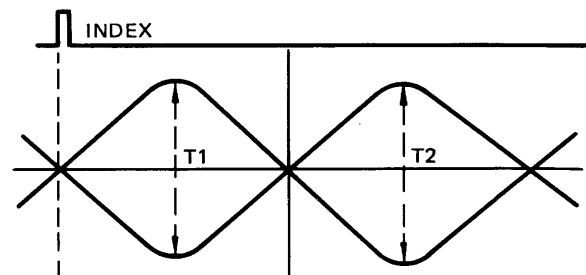

Figure 1-5. Stepper Motor Alignment Data Pattern
- d. Install alignment floppy disk (contains alignment data pattern, Figure 1-5).
- j. Drive stepper motor in to track 38 and observe that alignment envelopes are as shown in Figure 1-5; T1 and T2 should be within 90 percent amplitude of each other.